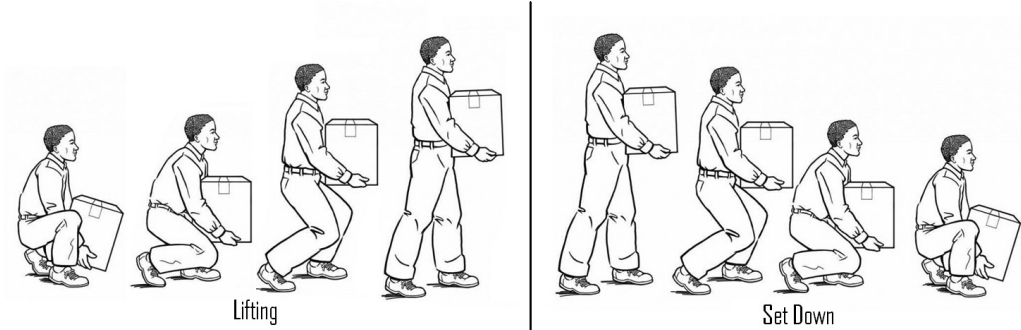

Figure 3 - Lifting Instruction
- ◆ When lifting and carrying, always keep the pump close to your body (Figure 3).
- ◆ When starting the lift, bend your knees and keep your back straight (Figure 3). Tightening the stomach muscles will help keep your back straight.
- ◆ During the lift, use your legs to do the work. Never use your back, and make sure your legs are at least shoulder-width apart (Figure 3).